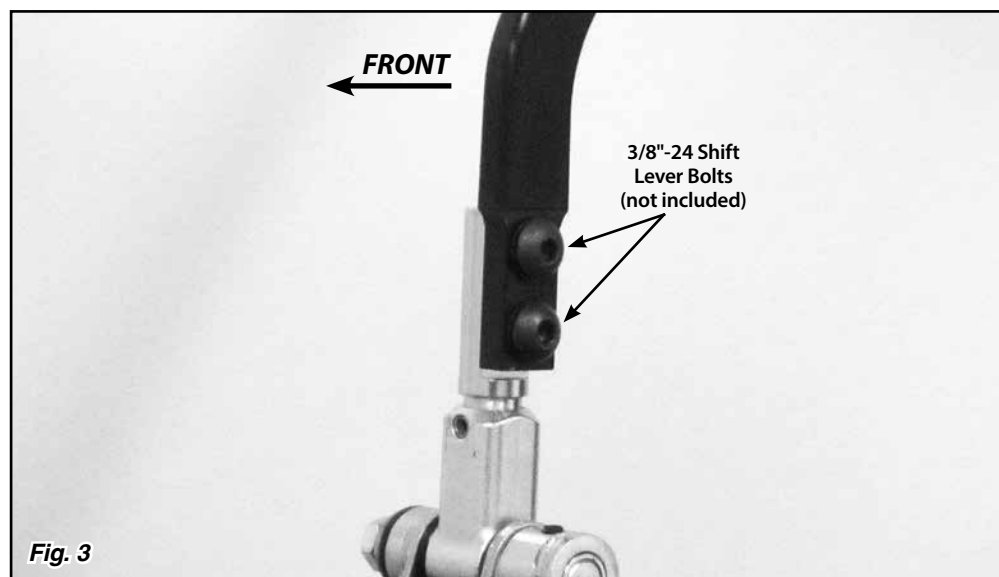

Fig. 3
Step 4: Tremec Style Lever - If your Shifter did not come with the Shifter Lever already installed, install the Shifter Lever using the 3/8"-24 bolts that came with the Shifter Lever. Fig. 3